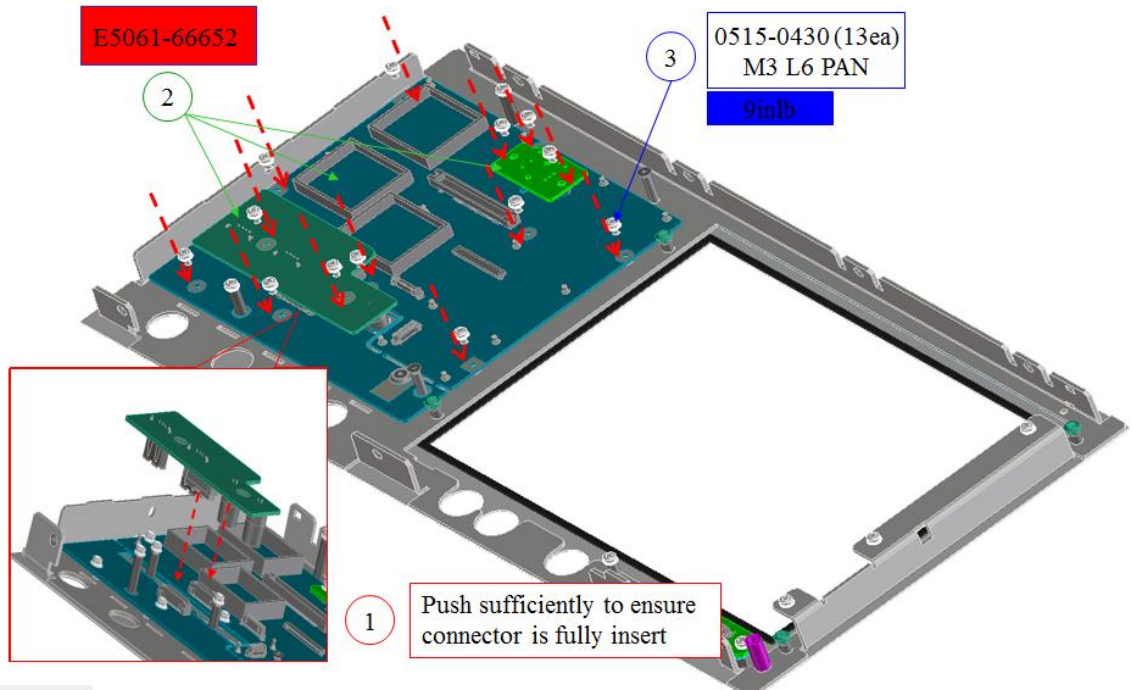

Figure 1-1
1. Reuse and install the keyboard, keyboard PCA and power switch PCA on the new front panel sub as shown in figure 1-1.